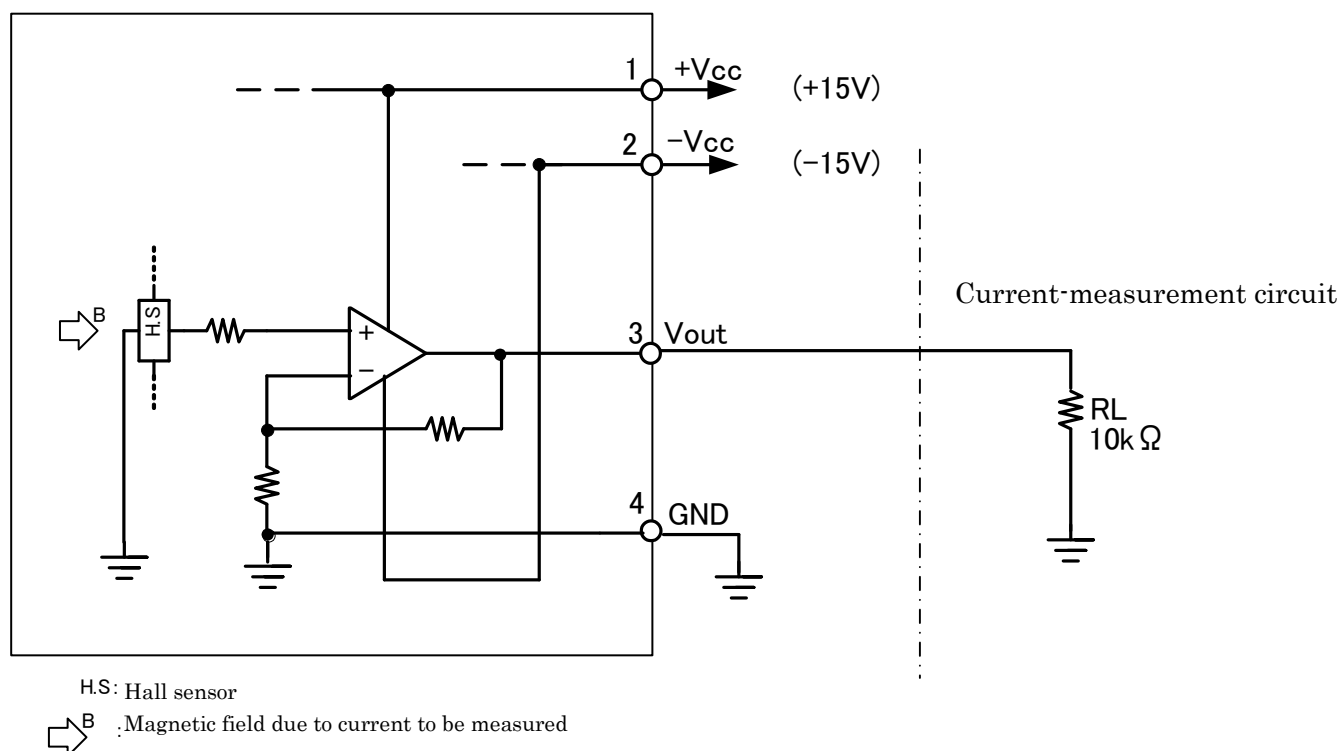

Fig. 2: Standard circuit
### □ Description of Fig. 2
This current sensor converts a measured current into a voltage. The output voltage  $V_{out}$  (3) in Fig. 2 is output on the basis of the GND voltage ( $V_{ref}$ ).
10 k $\Omega$  in Fig. 2 is the equivalent resistance of the receiving circuit of the current sensor output  $V_{out}$  (3). The load resistance between the  $V_{out}$  terminal (3) and the GND potential (0V) is used the standard value of 10 k $\Omega$ .